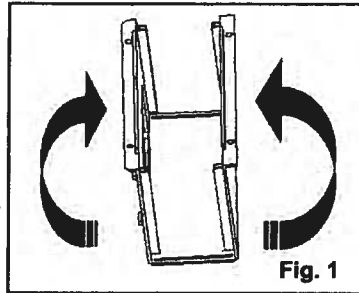

Fig. 1
1) Fold both sides of the Rain Hood 90° as so the flanges are facing outward. Fig 1